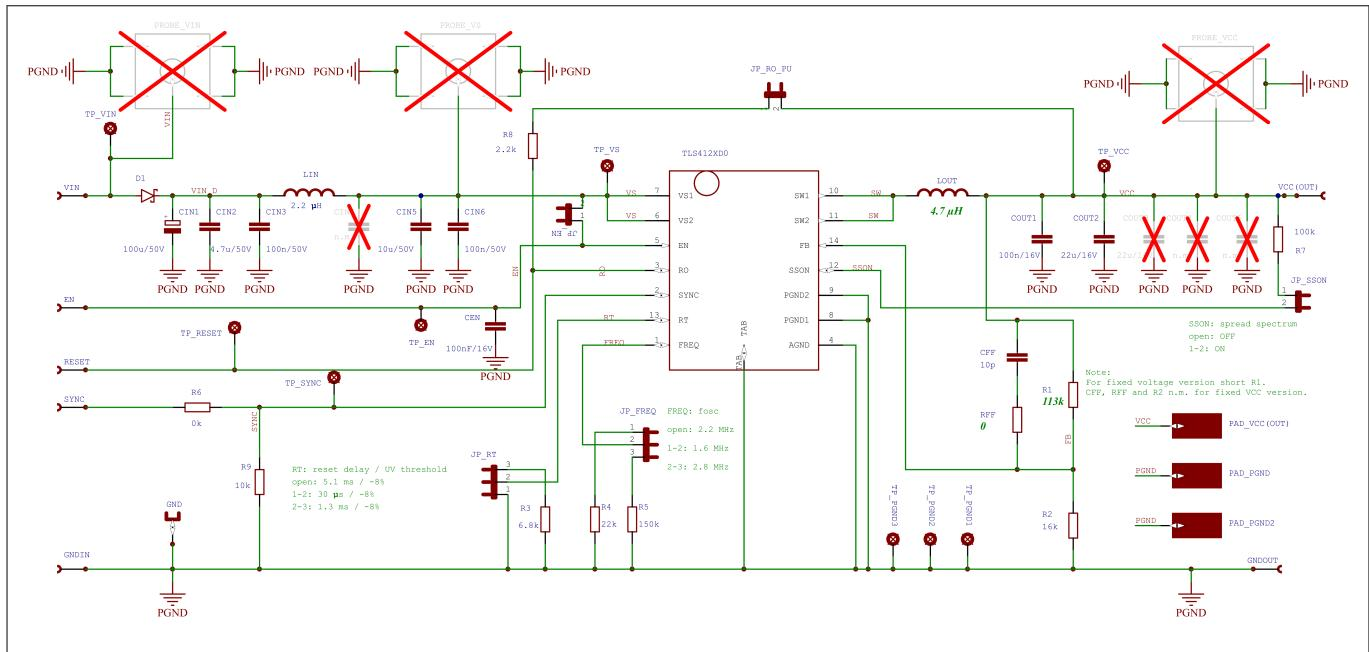

Figure 15 Schematic for adjustable variants in HF configuration
- adjustable variants TLS412xD0EPV in HF configuration, see Figure 15